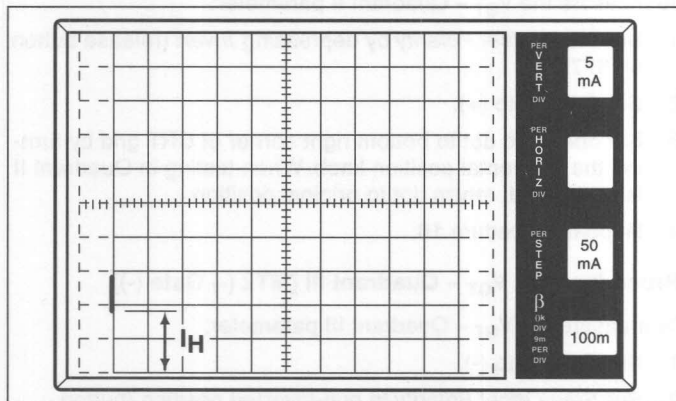

Figure 19.11 $I_{H(\text{Forward})}$ is 8.2mA
5. Decrease *Variable Collector Supply Voltage* to the point where the line on the CRT changes to a dot. The position of the beginning point of the line, just before the line becomes a dot, represents the holding current value (See Figure 19.11.)